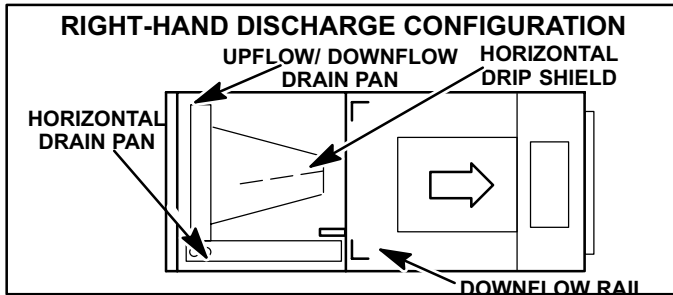

FIGURE 15
- 3- No further adjustment is necessary. Set unit so it is sloped towards the drain pan (1/4" [6mm]). See figure 15.